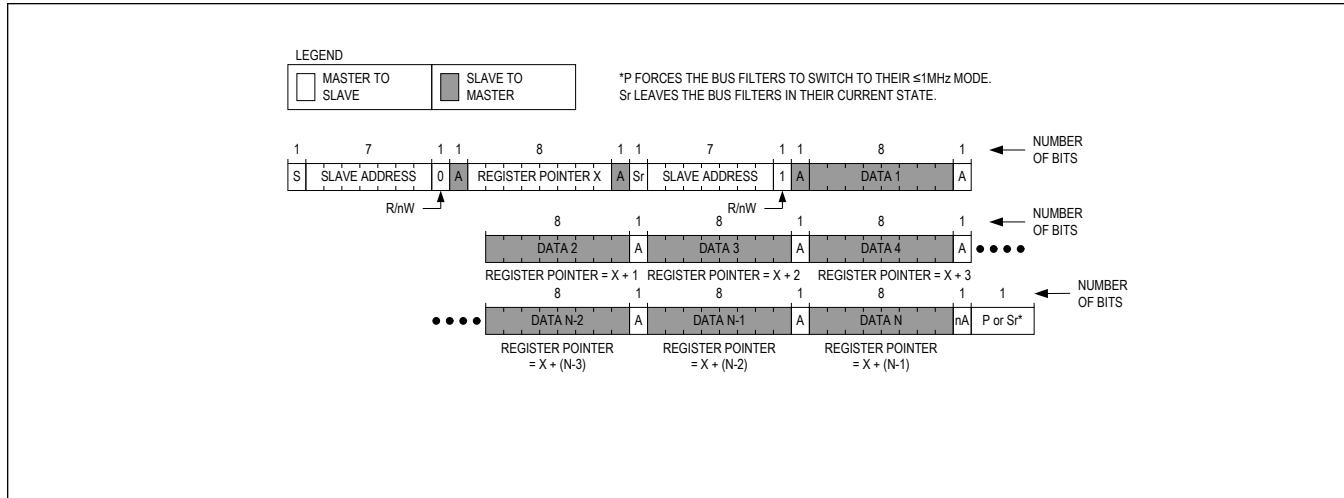

Figure 8. Reading from Sequential Registers
Figure 8 shows the protocol for reading from sequential registers. This protocol is similar to the "Read Byte" protocol except the master issues an ACKNOWLEDGE (A) to signal the slave that it wants more data—when the master has all the data it requires, it issues a NOT-ACKNOWLEDGE (nA) and a STOP (P) to end the transmission.